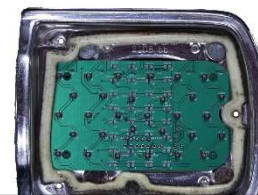

Figure 3
- 4.4. Remove the cover tape from the mounting foam on back of panel. Align the LED panel within the gasket inside the housing. (See Figure 3) When LED panel is centered properly, press into place.